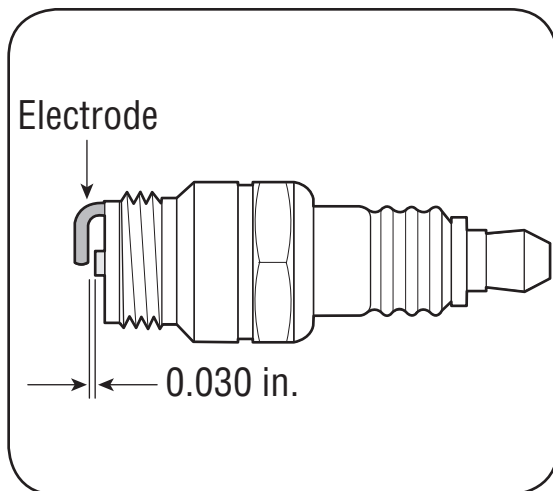

Figure 10-4: Measure the plug gap with a feeler gauge.
3. Measure the plug gap with a feeler gauge. Correct as necessary by bending side electrode, Figure 10-4. The gap should be set to 0.030 in.